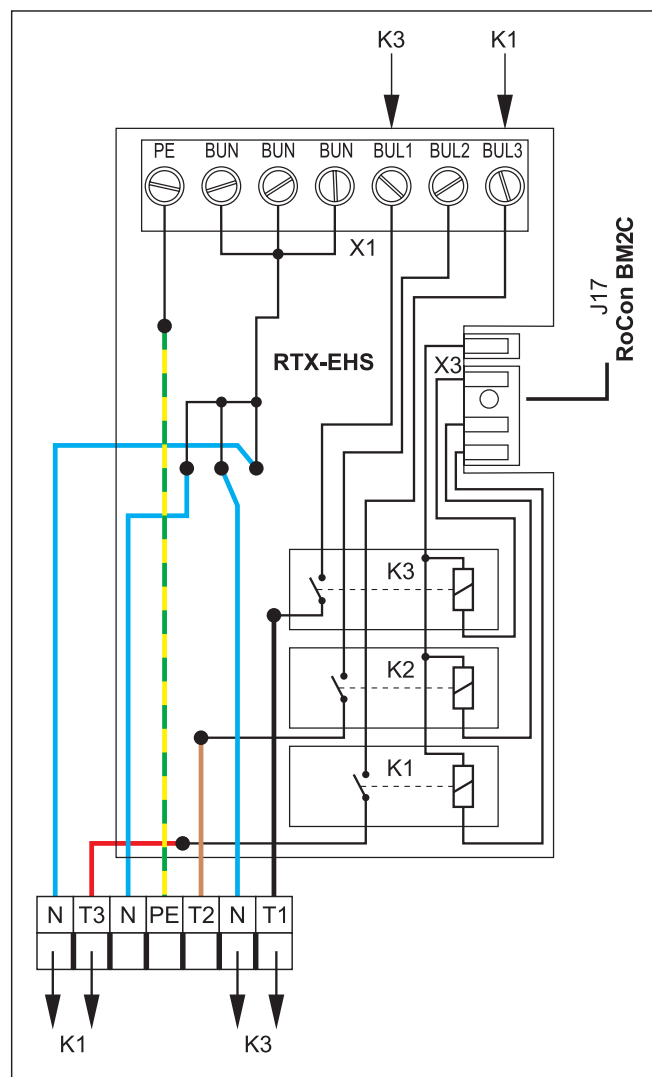

Fig. 4-38 Connection on the RTX-EHS printed circuit board
The external heat generator request is connected via a relay on printed circuit board RTX-EHS (see Fig. 4-38). Electrical connection to the Daikin Altherma EHS(X/H) is possible as follows;
- 3 Make suitable connections on the RTX-EHS printed circuit board of the connection set (see Fig. 4-38).